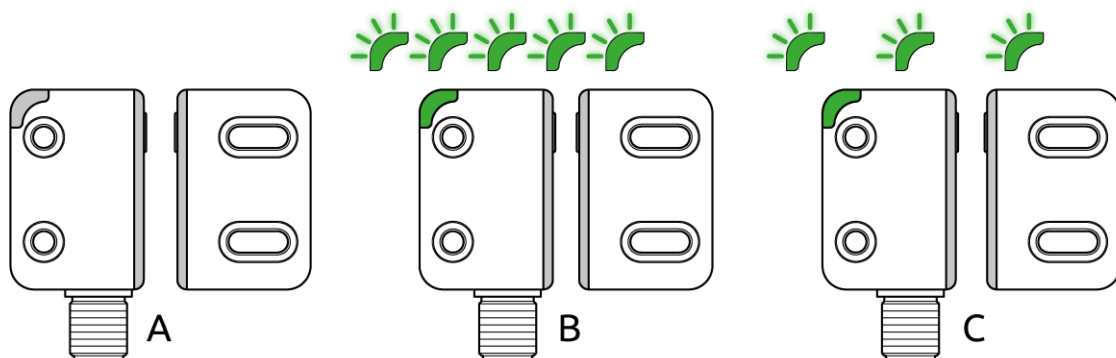

Figure 41 - Automatic teach-in signals
- Place the actuator in front of the sensor (at a distance $\leq 2\text{mm}$) (Figure 41, condition A).
- The sensor reads the actuator code and starts the pairing process (Figure 41, condition B).
- The procedure will be completed after 5 seconds (Figure 41, condition C).